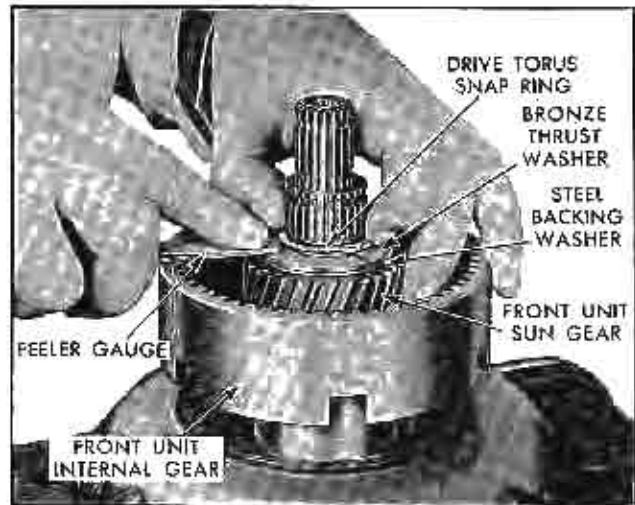

Fig. 165 Measuring Front Unit End Clearance
8. Push intermediate shaft and sun gear firmly to rear of transmission (Fig. 165) to make sure all end play is taken up.
9. Push snap ring down against rear of groove and very carefully measure clearance between snap ring and bronze thrust washer using a set of feeler gauges (Fig. 165). **CAUTION:** The feeler gauge must be flat against the thrust washer to obtain an accurate reading.